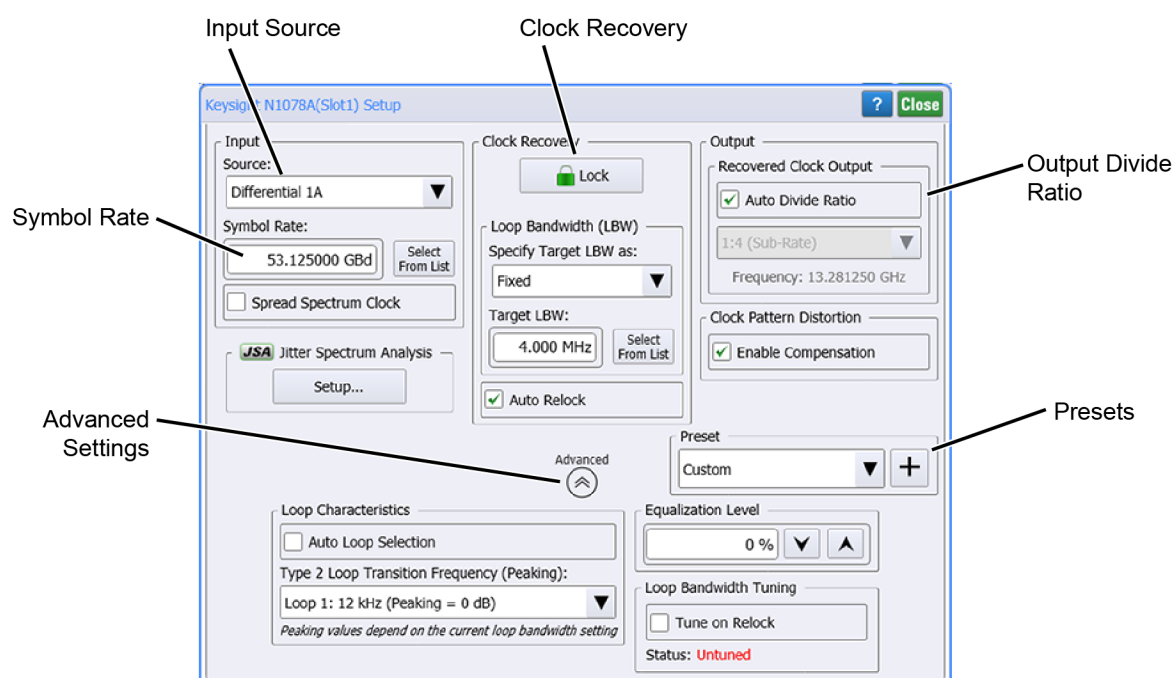

Figure 25. Clock Recovery Setup Dialog Box
4. Click **Setup > Modules > (Slot 6): Clock Recovery**. The dialog box shown **Figure 25** is displayed.